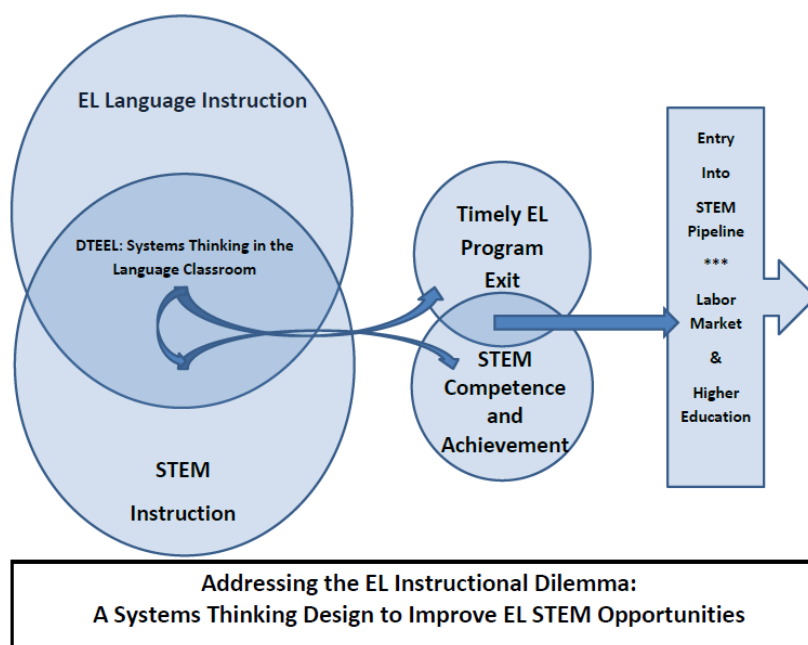

Figure 1: DTEEL Conceptual Model
This curriculum will provide all students with a rigorous sequence of activities that develops practical problem solving skills with real materials. It will capitalize on bilingual English Learner (EL) students' strengths as problem-solvers (Bialystok & Majumder, 1998) through linguistically engaging STEM instruction. Students will also develop teamwork skills and an appreciation for differences and talents, as well as a critical appreciation for the human thinking that has created technology to solve problems, at times resulting in the creation of other, unforeseen problems. The introduction to and immersion in the engineering problem solving process works to support EL students' overall achievement and timely exit from the EL program, ultimately improving their opportunities to learn STEM effectively. The DTEEL project capitalizes on bilingual students' problem solving advantage¹ and the systems thinking orientation of engineering education to identify a curricular and systematic approach to improving bilingual EL students overall academic achievement and STEM competence in particular (Figure 1).